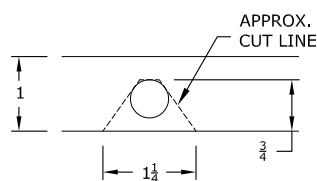

FIGURE A3
**6. Mark the 4" hole location.** Using a tape measure hooked over the rear edge of the bed (at tailgate end), measure the location for the hole as shown in figure A3. Next, locate the center of the bed by measuring the distance between the wheel wells and dividing by two. The center of the hole will be at the intersection of the center of the bed and the first distance measured
**8. Modify bed flange.** Cut a notch in the bed flange just above the frame in the passenger side rear wheel. Locate the 7/16" hole in this flange above the axle and enlarge the hole by removing the metal below the hole so that a notch is created, See figure A3 & A4. This will allow the rear cross member to be installed.